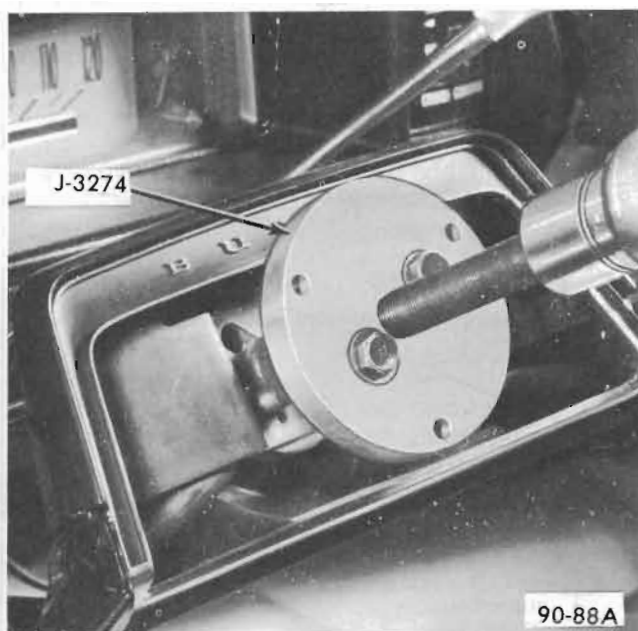

Figure 90-77 Removing Steering Wheel
3. Attach Wheel Puller J-3274 to steering wheel and pull wheel up to nut. See Figure 90-77.